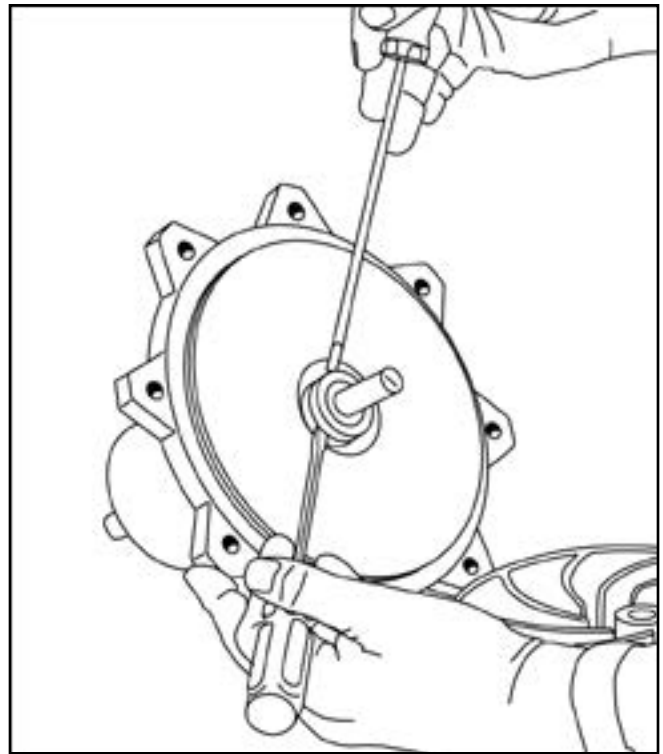

FIG. 20
7. Pry off seal with screwdrivers. It is not important if seal is damaged, as it must be replaced. Replace both parts of seal, never one or the other. Fig. 20.